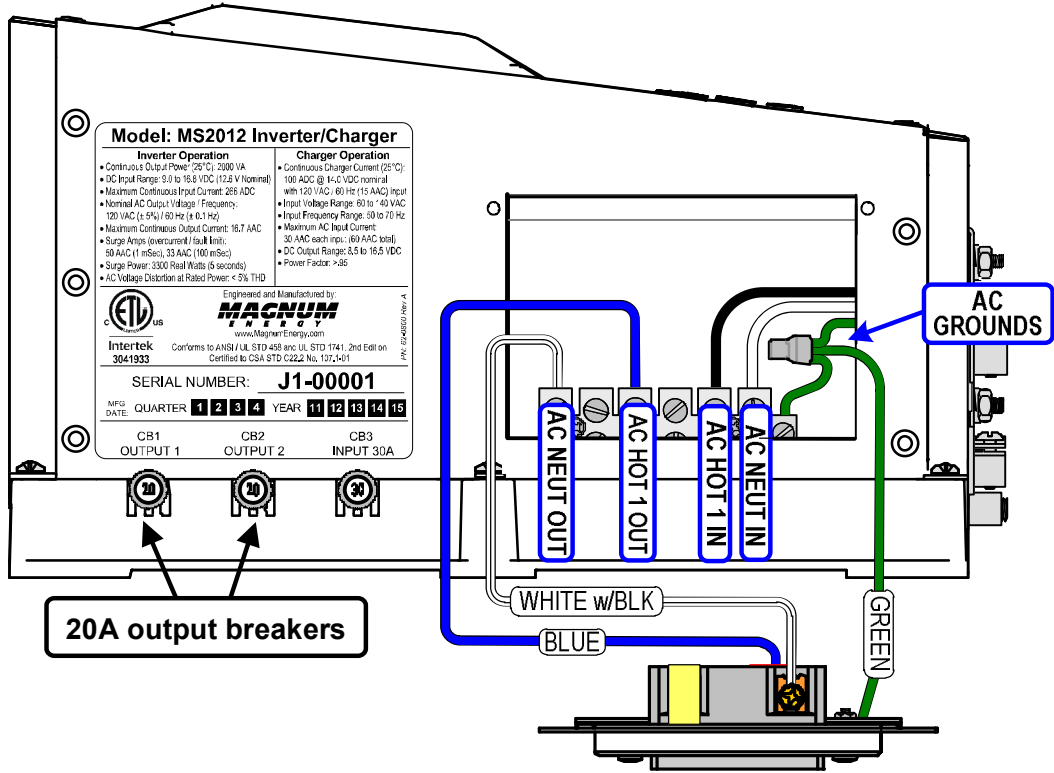
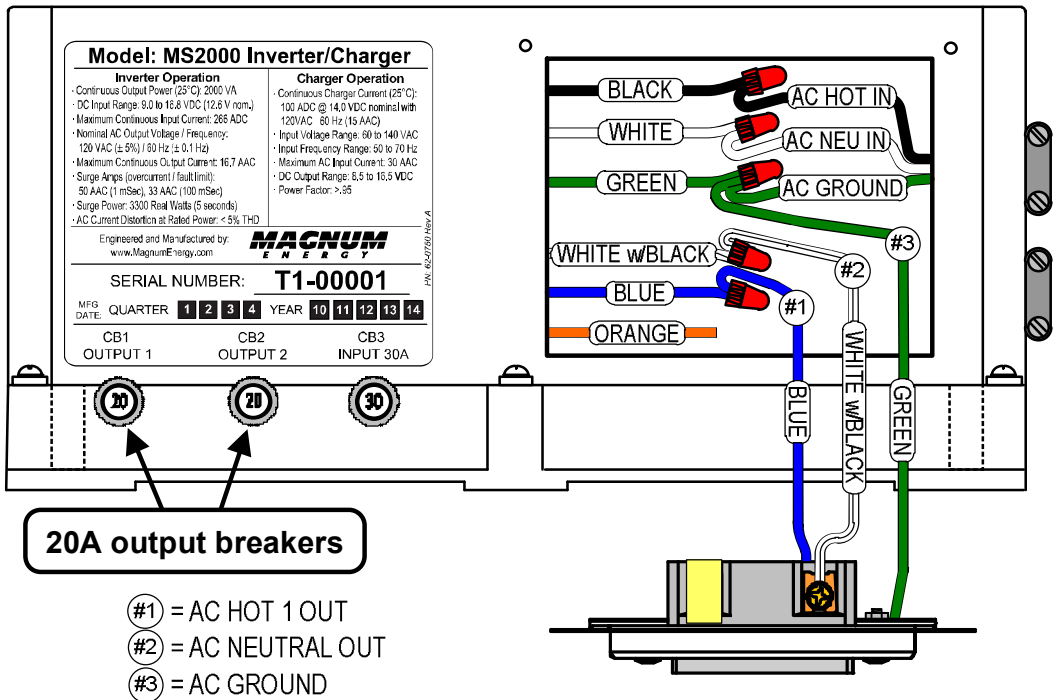

Figure 1, AC Output Wiring for MS2012-20B
Figure 2, AC Output Wiring for MS2000-20B
3. Connect the GFCI outlet's 3 pre-stripped wires as follows (refer to Figure 1 for MS2012-20B models, or Figure 2 for MS2000-20B models):